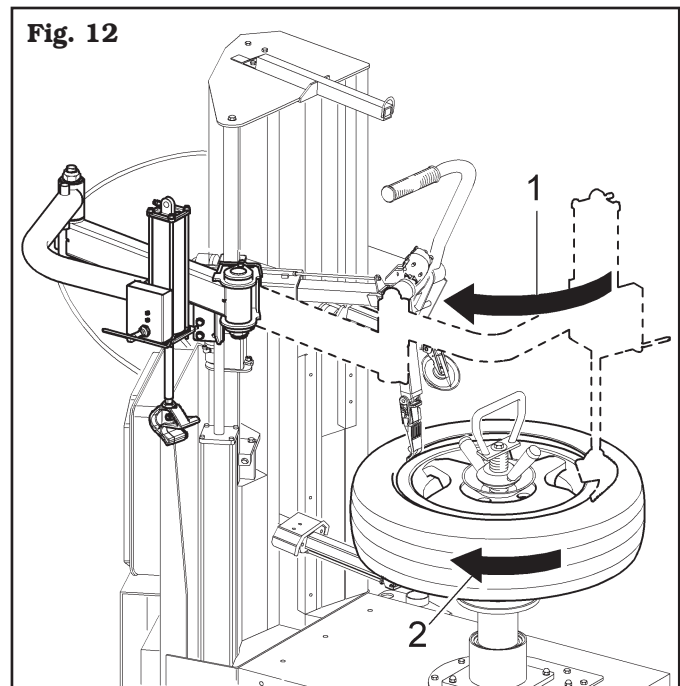

Fig. 12
d - Lift wedge tool and close Plus Device again to rest position as shown in figure (**Fig. 12 ref. 1**).
e - Carry out bead's extraction by turning the mandrel clockwise (**Fig. 12 ref. 2**).